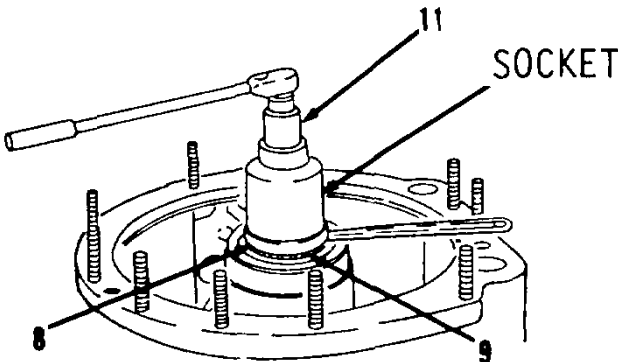
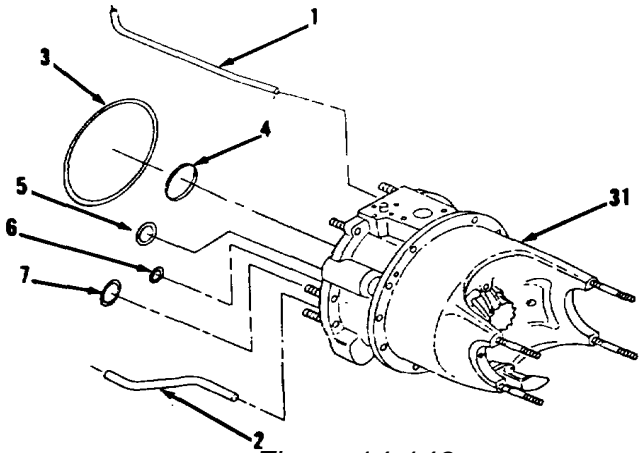

Figure 14-147.
Figure 14-148.
- 20. Using socket and torque wrench, check amount of torque needed to move shaft (11, Figure 14-147) without preload.
- 21. Using ratchet, hold shaft (11) while tightening nut (8) to 6 in-lb torque above the measured torque without preload.
- 22. Remove socket from shaft (11).
- 23. Bend tabs of lock (9) over nut (8).
- 24. Install new preformed packings (7 thru 3, Figure 14-148).
- 25. Install tubes (2 and 1) in carrier (31).